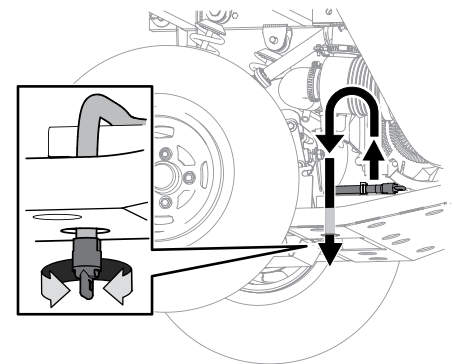

Figure 4-2
1. Place the oil drain hose down through the hole closest to the oil drain hose. See Figure 4-2.
2. Turn the plug counterclockwise and allow oil to drain into a suitable container. See Figure 4-2.